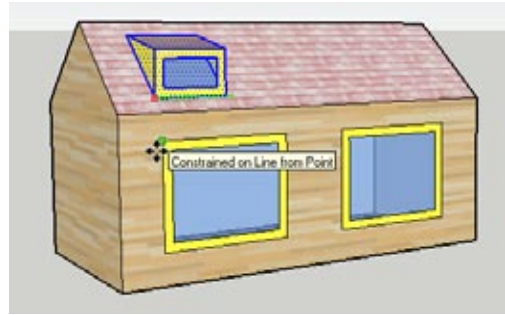

Figure 5-20
- The next step is to move the dormer directly above one of the windows already on the house, which will require direction locking. Select the whole dormer and activate Move. Click the dormer's lower-left front corner and start to move the dormer in the green direction (or red, depending on how you made your house). Press and hold Shift to lock the direction. Then click any point along the left edge of the window below. This aligns the left side of the dormer with the left side of the window below it (Figure 5-20).